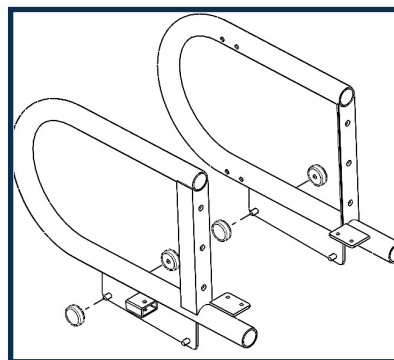

FIGURE 1
- Attach rollers (2) to upper roller pins on dock mount arm (R). See figure 1.
- Attach rollers (2) to upper roller pins on dock mount arm (L). See figure 1.